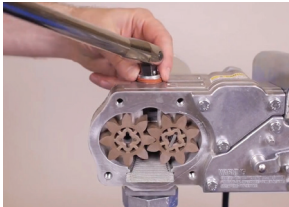

Figure 16
2. Using a 1/2" drive socket wrench, remove the pipe plug from the top outlet port (see Figure 16).